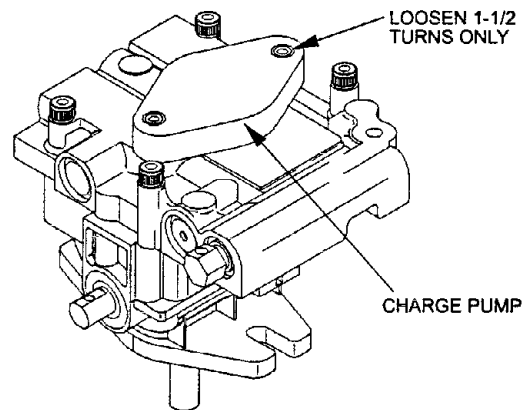

FIG. 9 CHARGE PUMP LOCATION
- f) If either drive wheel does not rotate, one or both of the charge pumps (located on the top of the main pump as shown in Figure 9) may have lost their "prime". Refer to Section 5.1.10.
The critical area for purging air from the hydraulic system is between the oil reservoir and each charge pump located on the top of each variable displacement pump. (See Figure 9).
- d) To "prime" charge pump, loosen two hex socket head capscrews (shown in Figure 9) 1-1/2 turns only. **Make sure engine is not running.** Lift charge pump housing upward and wait for a steady flow of oil to flow out from under housing. **Retighten capscrews.** Do this for both pumps. Note: Hydraulic reservoir can be pressurized to up to 5 psi to speed this process.